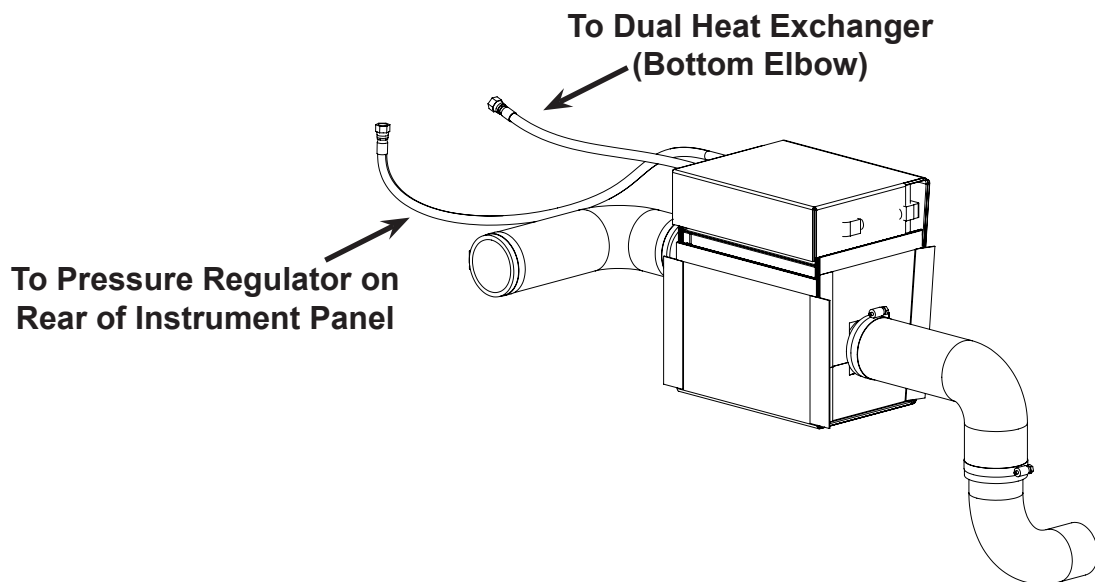

Figure 40. Connect 3/8" Teflon Hoses to Salsa Elbows and Route
6. Connect two 3/8" Teflon® hoses with JIC ends to the brass elbows on the Salsa (see Figure 40).
8. The other 3/8" hose connected to the outermost brass elbow on the Salsa will be connected to the pressure regulator on the rear of the instrument panel (see Figure 40).